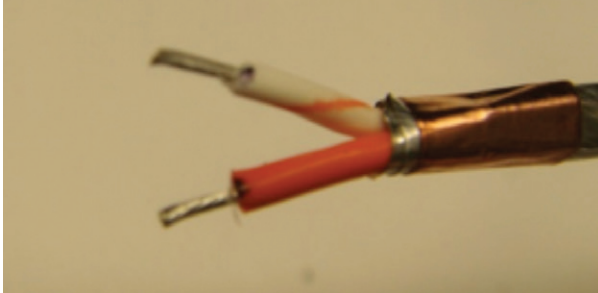

Figure 22: Stripping primary
15. Using 26-gauge hand strippers, strip each primary (Figure 22). If necessary, re-tin the primary ends.